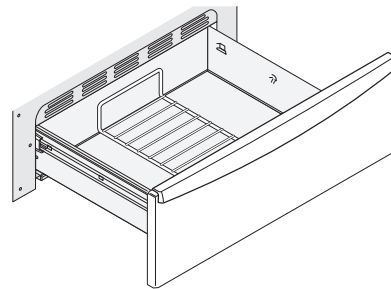

Figure 33: Downward position
- In the downward position (See Figure 33) to allow for light weight food items and empty cookware (for example, rolls, pastries, and dinner plates) on the rack.